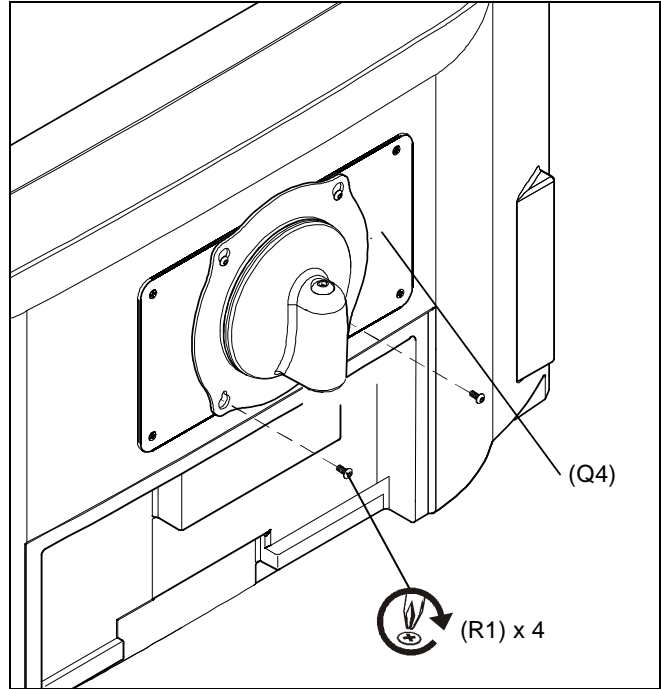

Figure 9
3. Hold display so that display back is against Centris cup and install two M4 x 12mm Phillips pan head machine screws (R1) through lower mounting holes in Centris cup and into lower mounting holes in interface bracket (Q4). (See Figure 9)